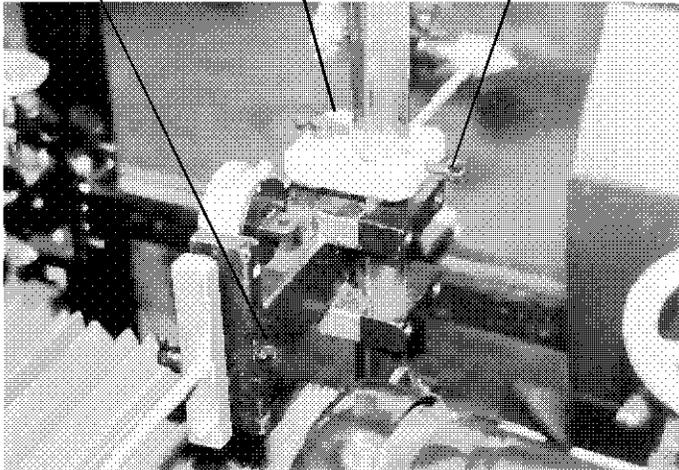

FIG. 45
- A. Move the grinding head assembly until the set up fixture is approximately 1" from the right side of the reel. Lock the Knob A within approximately 1/8" .125" (3MM) of center shaft of the reel. See FIG. 45.
- D. Pull rod back and lock Knob C. See FIG. 45. Traverse to the other side of reel, same distance from end. Loosen Knob C and extend alignment rod. See FIG. 46.
- B. Lower the indicator slide casting on the vertical support so the indicator rod can make contact with the center of the reel shaft within approximately 1/16" .062" (1.5 MM) and lock Knob A. See FIG. 45. Center shaft should be clean and free of rust where rod makes contact. Now fine adjust using Knob B until at the center of the center shaft of the reel. See FIG. 47.
- D. Now set the outer dial indicator to the "0" position. Read and note the position of the smaller (.100) dial. You must know this reading when setting up the other side. Pull back and lock with Knob C. See FIG. 45.